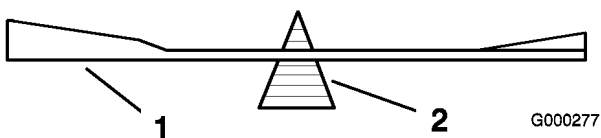

Figure 76
2. Check the balance of the blade by putting it on a blade balancer (Figure 76). If the blade stays in a horizontal position, the blade is balanced and can be used. If the blade is not balanced, file some metal off the end of the sail area only